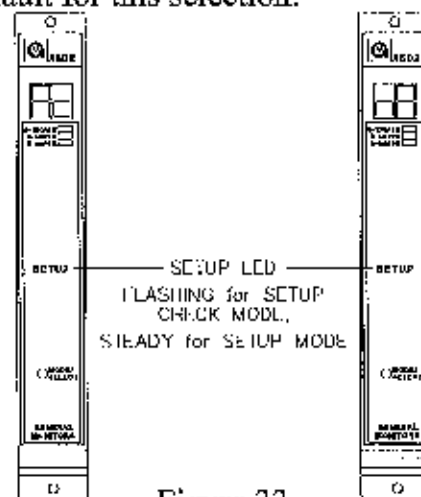

Figure 33
- Next, the display will indicate the alarm output option during a Card Test as either **Ac**, active or **nA**, not active. (figure 33). Press the Mode/Select switch until the desired option is displayed. Not Active is the factory default for this selection.